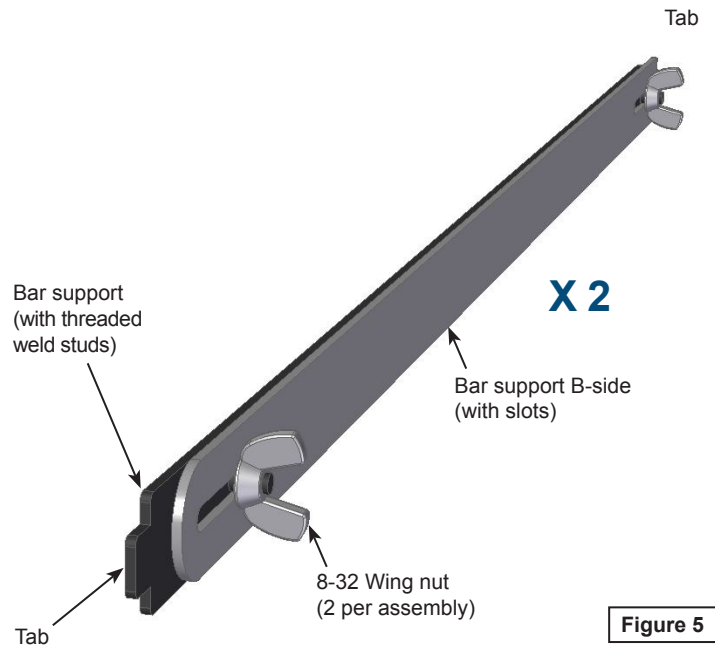

Figure 5
1. The bars should be assembled with the tabs facing away from each other as shown in **Figure 5**.
2. Loosen the (2) wingnuts slightly.